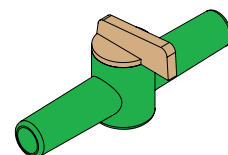

Figure 3-4 Closed
6. Shut off the valve (*see figure 3-4*).